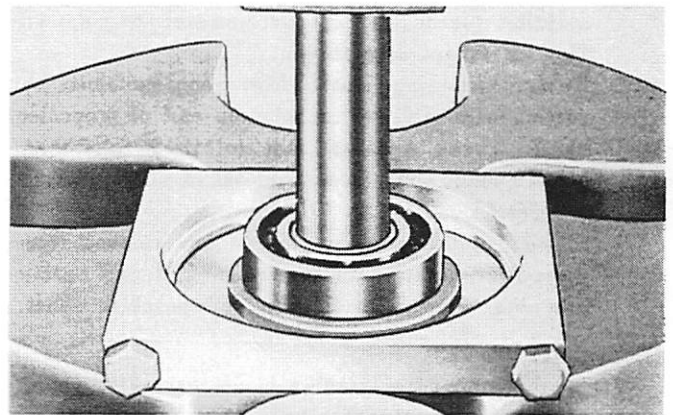

Figure 3. Removing Ball Bearing from Reverse Gear
10. Remove ball bearing from reverse gear with Gear Puller Plate (C-91-22115). (Figure 3) Place halves of plate between ball bearing and gear and tap halves together. Insert cap screws and tighten. With gear facing down, press out against rear shoulder of gear.